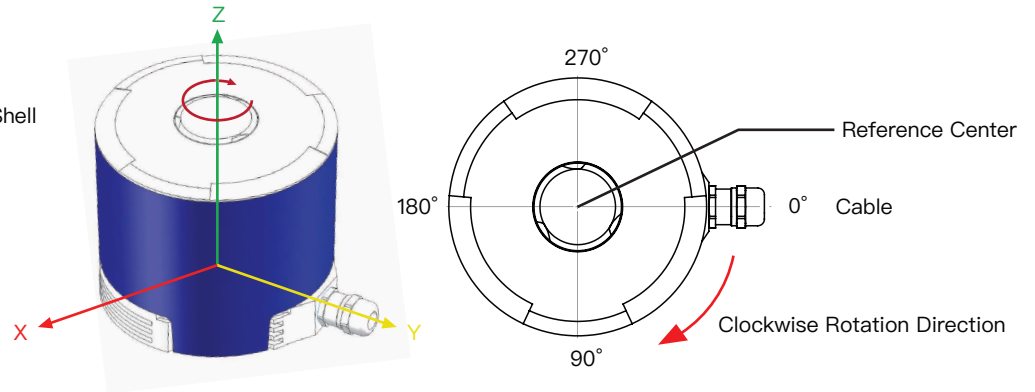
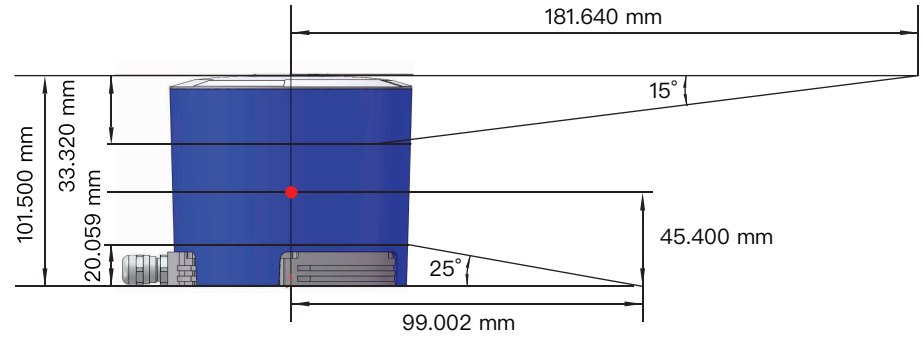

Figure 1.3 LiDAR Coordinate System and Rotation Direction
Figure 1.5 Laser Firing Position
1) Figure 1.3 shows the coordinate system and the z axis is along the rotation center of the LiDAR. The origin of the coordinate system is shown as a red dot in Figure 1.5 (side view of the LiDAR). All the LiDAR measurement data are relative to the origin after geometry transformation according to LiDAR's optical and mechanical design.
2) Because of the intrinsic angle offset of each laser channel, the zero degree is defined as the azimuth angle in the corresponding block in UDP packet when channel 12 passes y axis defined in Figure 1.3.